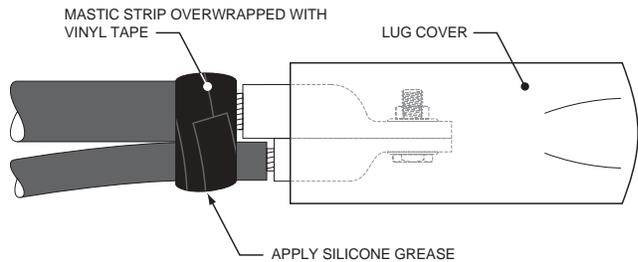

Figure 3
2. Separate the cables and apply mastic strip around insulation and between them at a position just onto insulation (Figure 3). *For jacketed feeder cable, see note below.* Build thickness so the overall diameter is slightly larger than the observed inside diameter of the lug cover. Press cables together and be sure that no void exists between them.
Note: *The kit contains a small tube of silicone grease. Use it to lightly lubricate the mastic-vinyl wrap. This will aid in installing the lug cover (Figure 3 or 4, as applicable).*